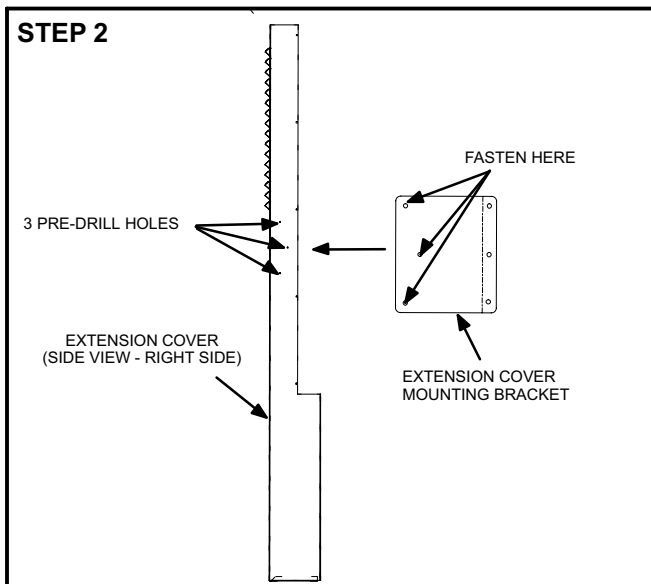

Figure 2. Install Extension Cover Mounting Bracket on Extension Cover
- Step 2. Install the extension cover mounting bracket on the extension cover as illustrated in figure 2 using 3 - #10 sheet metal screws. The intake extension unit has three pre-drilled holes as illustrated in figure 2.